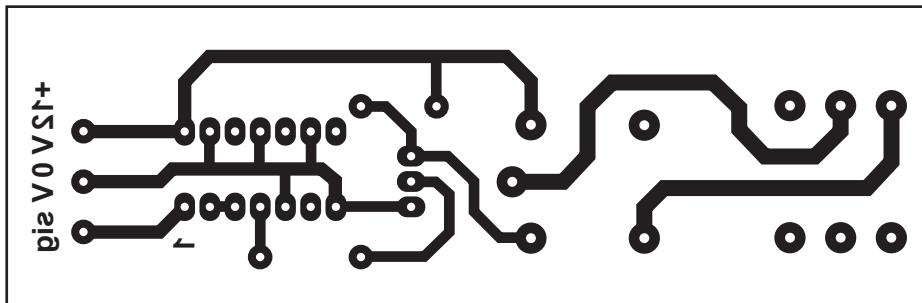

Fig. 12.1
- 12 (a) Fig. 12.1 shows a design for a printed circuit board (PCB) layout.